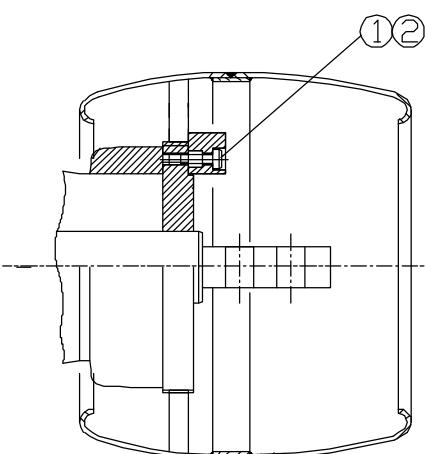
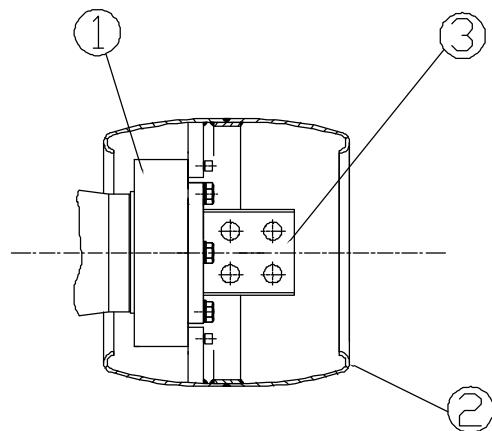

Fig. 2-1
Fig. 2-2
4.4 Corona shield In case of Fig. 2-1, screw the corona shield to the bushing and position the corona shield by means of pt. 1 screw and pt. 2 stopping block. Make sure the corona shield is positioned rigidly by unscrewing it until it can't be unscrewed. In case of Fig. 2-2, fix the corona shield to the end of the bushing using 4 screws directly. In case of Fig. 2-3, fix the corona shield to the end of the bushing using 4 screws directly. After the bushing has been fitted to the transformer the exposed end of the bushing must be protected by a suitable canister which must not be removed until the cable box duct is ready to be assembled.